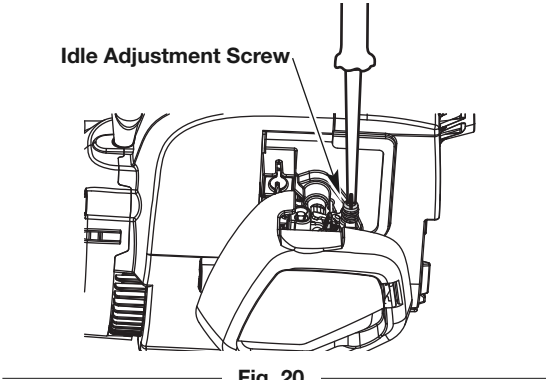

Fig. 20
2. Release the throttle trigger and let the engine idle. If the engine stops, insert a small Phillips screwdriver into the idle adjustment screw (Fig. 20). Turn the idle speed screw **clockwise** 1/8 of a turn at a time (as needed) until the engine idles smoothly.